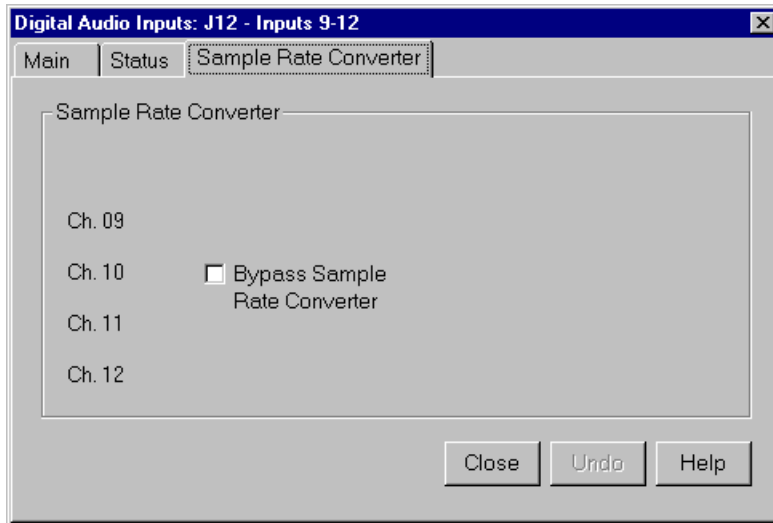

Figure 35. Digital Audio Input dialog box, Sample Rate Converter tab
1. In the Digital Audio Input dialog box, click the Sample Rate Converter tab (Figure 35). By default, the sample rate converter is enabled. The sample rate converter affects all four channel inputs.